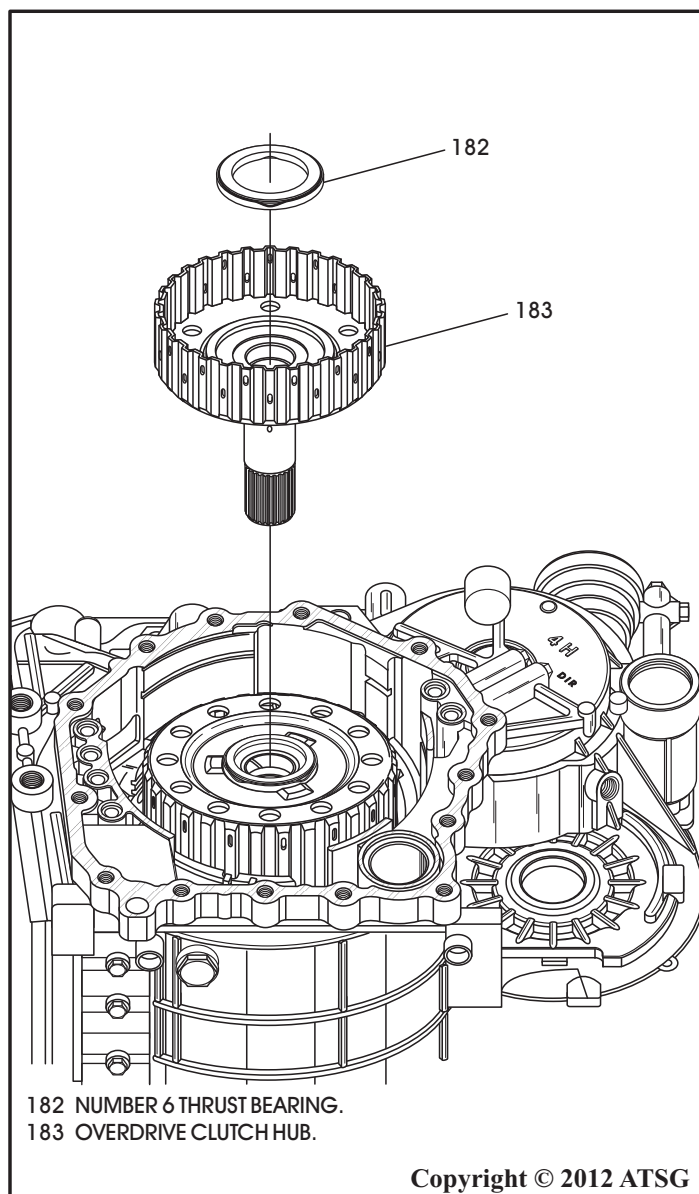

Figure 82
64. Remove the number 6 thrust bearing and the overdrive clutch hub, as shown in Figure 82.